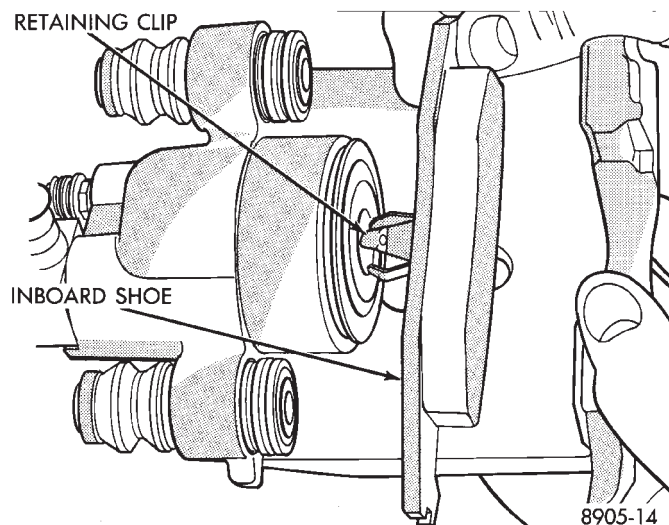

Fig. 8 Installing Inboard Brake Shoe Assembly
(4) Remove the protective paper from the noise suppression gasket on both the inner and outer brake shoe assemblies (if equipped).
(5) Install the new inboard brake shoe assembly into the caliper piston by firmly pressing into piston bore with thumbs (Fig. 8). Be sure inboard brake shoe assembly is positioned squarely against face of caliper piston.